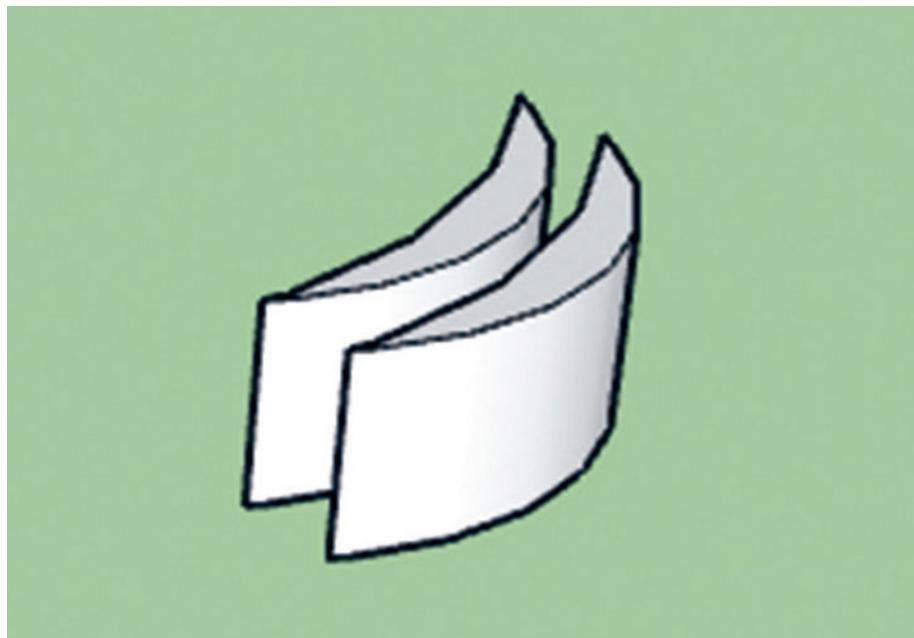

FIG. 5: Copy the crescent shape and align to form the two walls of the holder.
5. Make a copy of the wall by using the **Copy-Paste** tool in the **Edit** menu. Place the copy 2 mm away from the original. See fig. 5 for how to align the two walls.